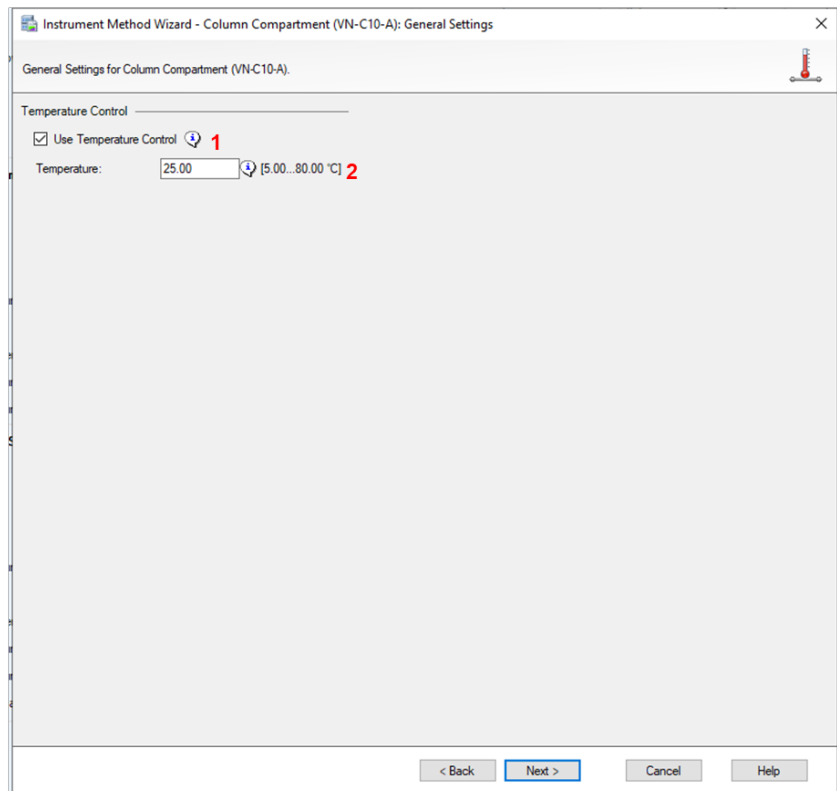

Figure 39: Page 7 - Column Compartment: General Settings
Table 9: Key to Figure 39: Page 7 - Column Compartment: General Settings
*Table 11: Key to Figure 39: Page 7 - Column Compartment: General Settings